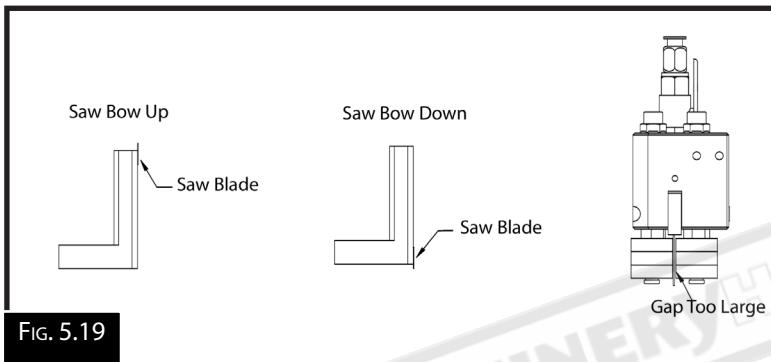

FIG. 5.19
2. Inspect the blade guides to see if there is a gap between the bearings and the blade (Fig.5.19)